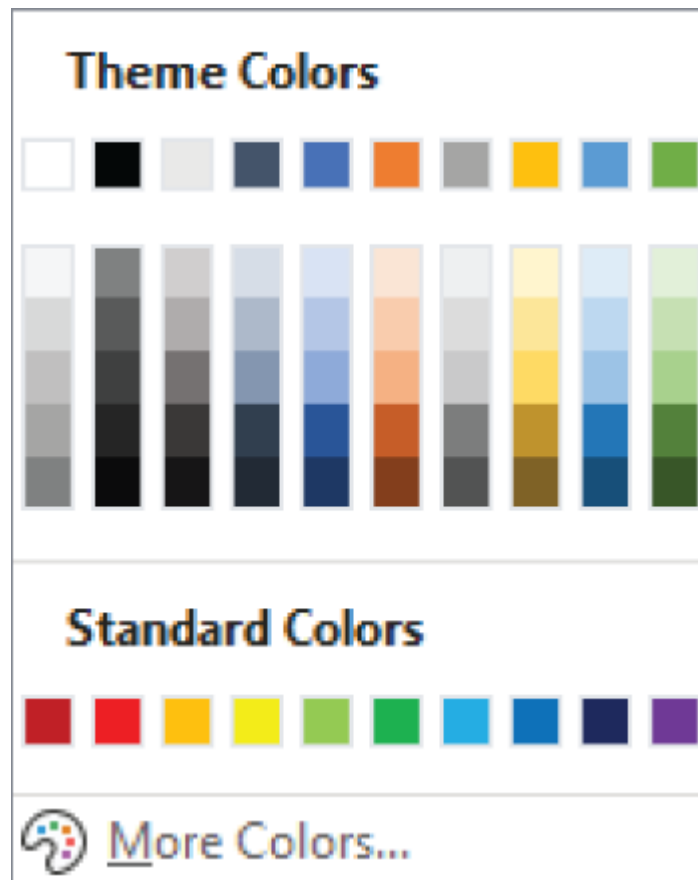
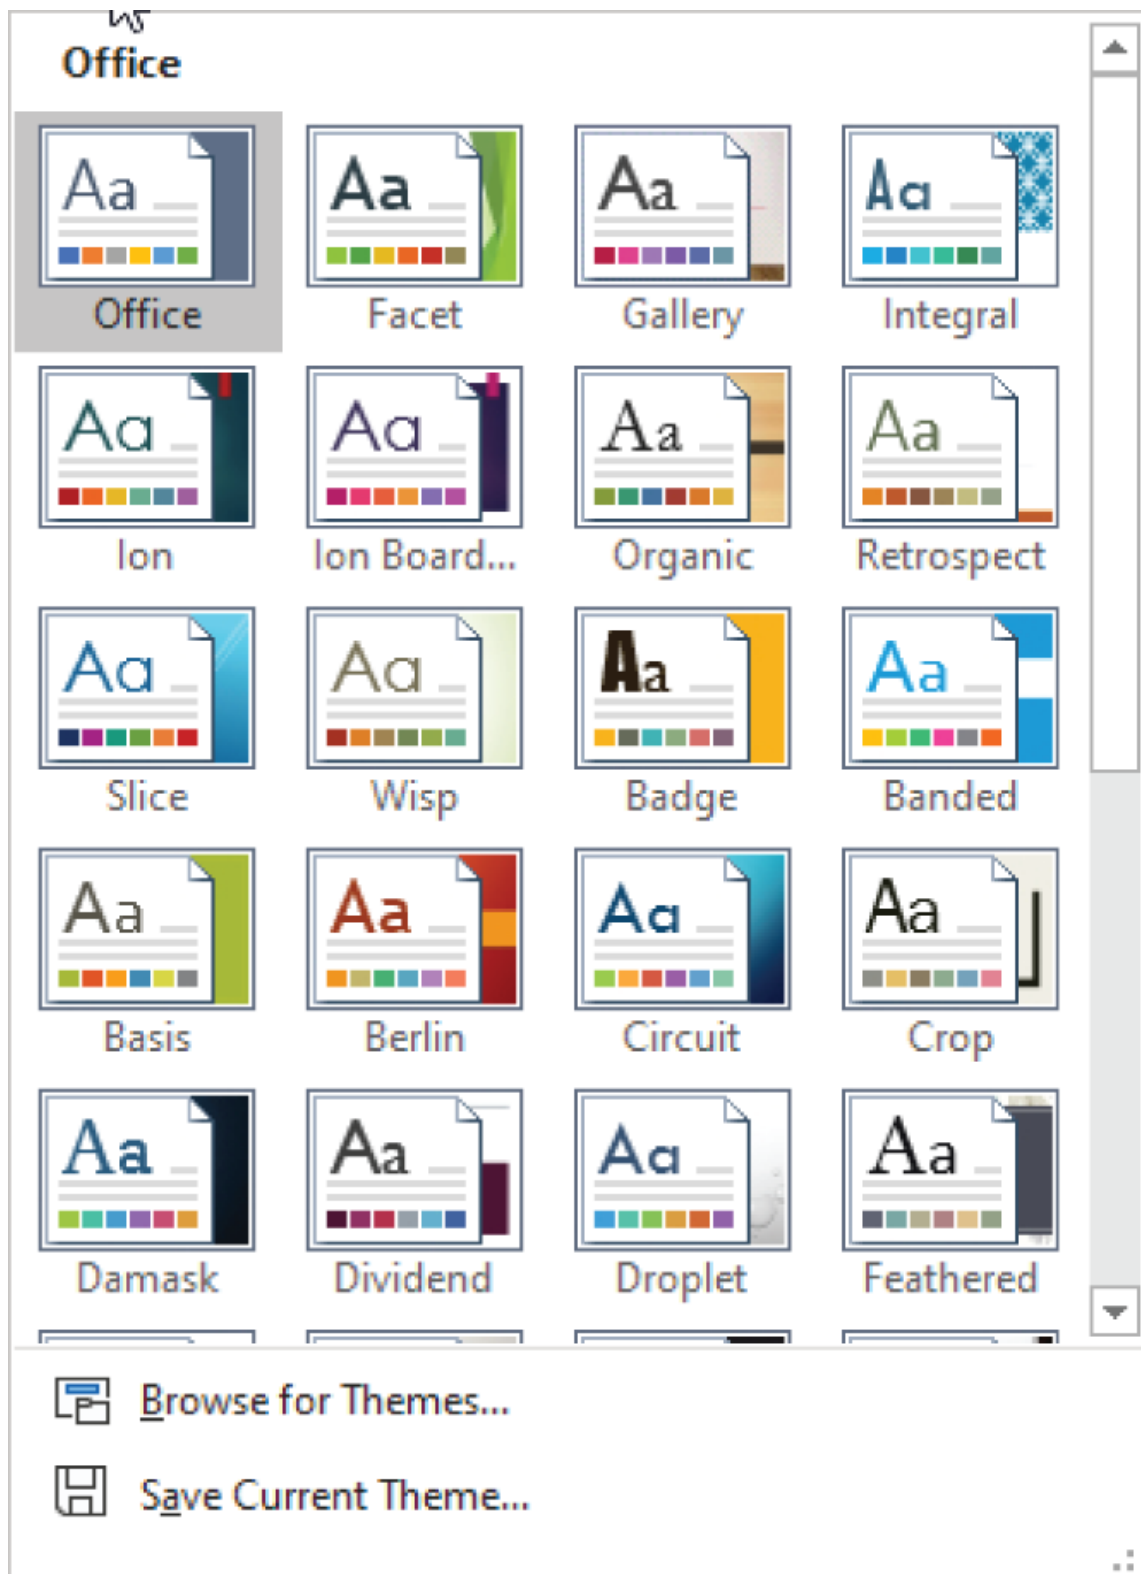

Figure 1.35: Excel's color pallet
Figure 1.36: Excel's theme gallery
- **Foreground color:** Don't include too many colors in your chart elements. Use color for a specific purpose, like to call attention to an important data point. Excel's color pallet, shown in Figure 1.35, makes it easy to keep your colors consistent by offering different levels of light and dark. Excel's theme gallery, shown in Figure 1.36, provides different pallets of colors that are complementary.